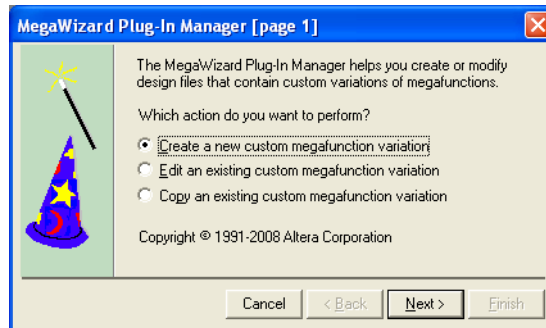

Figure 11. The MegaWizard.
1. Select Tools > MegaWizard Plug-In Manager. This leads to the window in Figure 11. Choose the action Create a new custom megafunction variation and click Next.